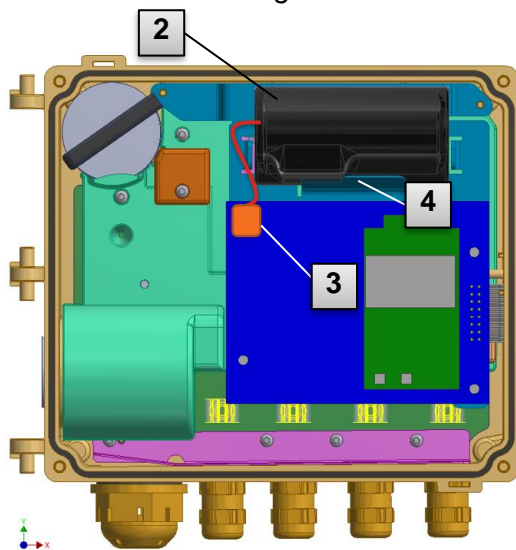

Fig. 43: EK205-M with lid removed
4. Disconnect the modem battery from the modem assembly (Fig. 43: 3).
5. Remove the modem battery (Fig. 43: 2) from the modem battery holder (Fig. 43: 4).
6. Place the new modem battery inside (Fig. 43: 2) and ensure that the battery is correctly fitted in the modem battery holder.